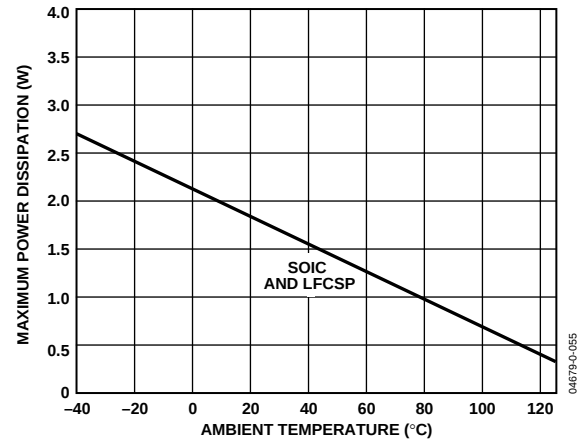

Figure 3. Maximum Power Dissipation vs. Temperature for a 4-Layer Board
Power Dissipation	See Figure 3
Figure 3 shows the maximum safe power dissipation in the package versus the ambient temperature for the exposed paddle (EP) SOIC-8 ($\theta_{JA} = 70^\circ\text{C/W}$) package and LFCSP ($\theta_{JA} = 70^\circ\text{C/W}$) on a JEDEC standard 4-layer board. θ_{JA} values are approximations.